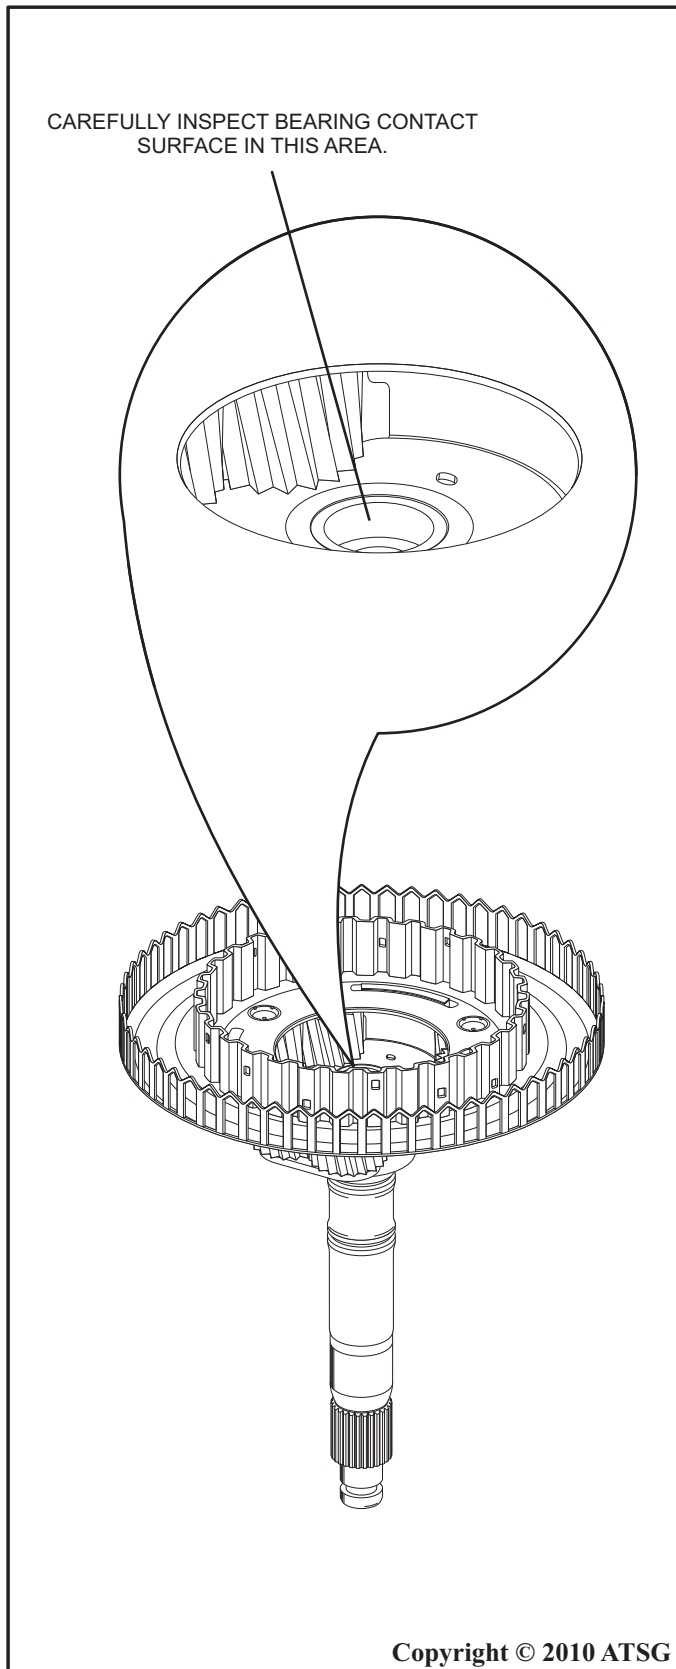

Figure 16
33. Thoroughly wash the input shaft/front planetary carrier assembly with solvent and inspect the bearing contact area as shown in figure 16. Replace the input shaft/front planetary carrier as necessary.